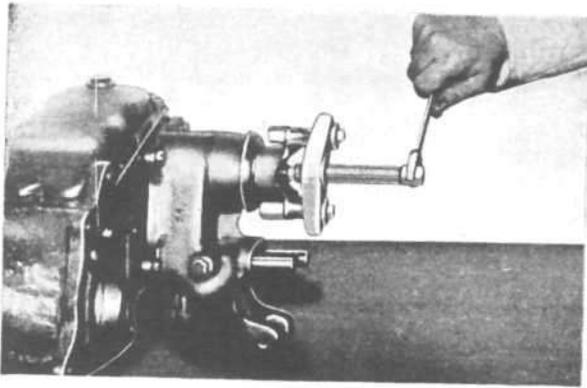

FIG. 208—UNIVERSAL JOINT FLANGE PULLER
- a. Remove the propeller shaft flange nut, No. 37, and washer and remove the flange with puller, Tool No. W-172 as shown in Fig. 208.
- b. Remove the universal joint yoke with puller Tool No. W-172 as shown in Fig. 208.